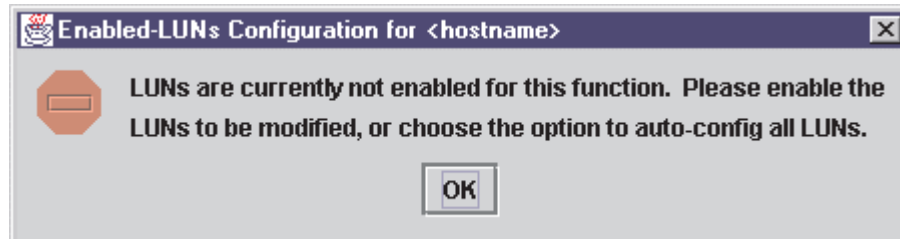

Figure 95. Enabled LUNs Only Warning dialog window
- Click **Enabled LUNs Only** to configure only enabled LUNs for load balancing across the paths within this device. When you click this option for a device with no enabled LUNs, the message shown in Figure 95 is displayed. Click **OK**.